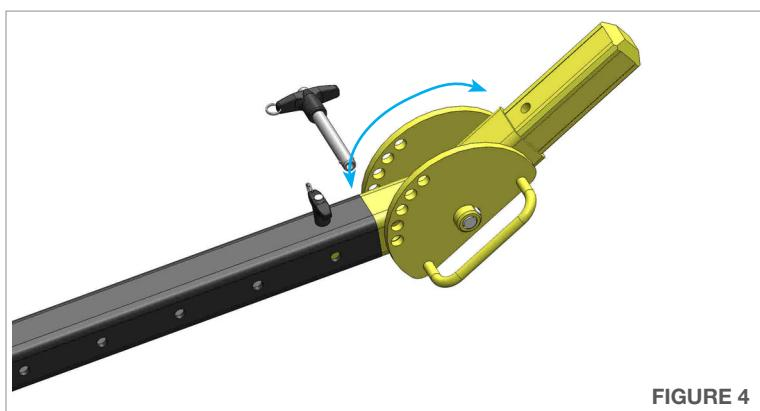

FIGURE 4
4. Set the angle of the Pivot Lock by removing the Quick Release Pin, setting the angle for the application, and reinstalling the Quick Release Pin. **(Figure 4)**